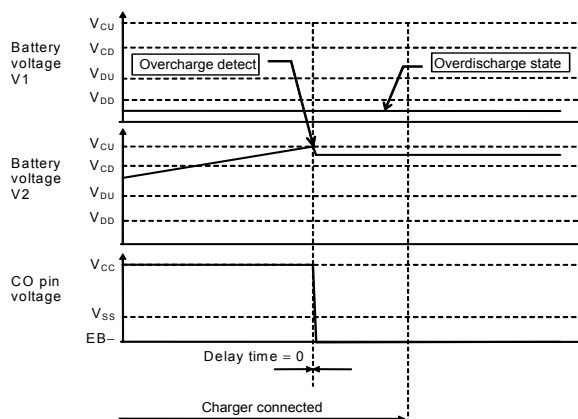

Figure 10
- When one of the battery voltages is overdischarge detection voltage ( $V_{DD1,2}$ ) or lower and the other one becomes higher than the overcharge detection voltage ( $V_{CU1,2}$ ), the IC detects the overcharge without the overcharge detection delay time ( $t_{CU}$ ) (refer to the **Figure 10**).